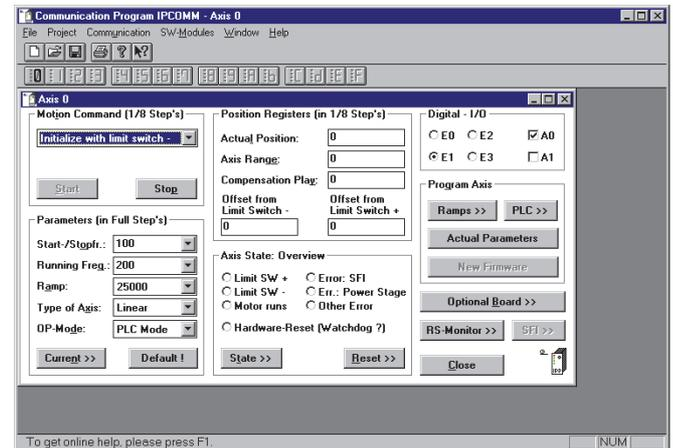

Fig. 10 Basic window
- Errors, program version and other information are indicated in *Status* window, Fig. 10.